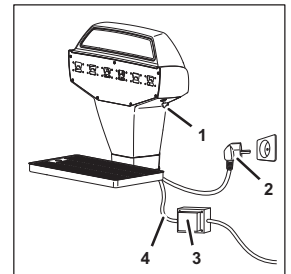

Fig. 2
1. Turn the key switch (Fig. 2/1) to position "0".
2. Disconnect the electrical cable (Fig. 2/4) (cable no. 220097434) on the transformer (Fig. 2/3) in the undercounter cooler.
3. **Only for units with a display:** Pull the electrical cable (Fig. 2/2) of the display out of the earthed socket.